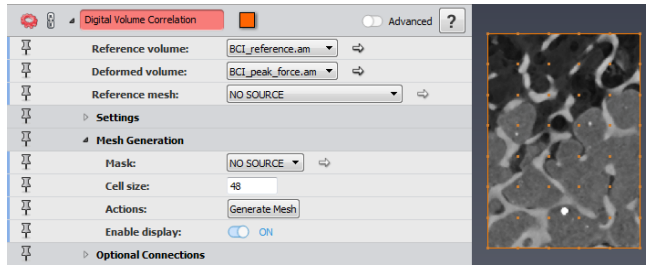

Figure 20.10: Generate a Tetrahedral Grid (yellow points represent the nodes of the mesh to create).
- Generate a tetrahedral grid using the *Mesh Generation* section. Set the *Cell size* to 48 and turn on the *Enable Display* port to see the nodes of the mesh (see Figure 20.10). Click *Generate Mesh* to create the mesh.